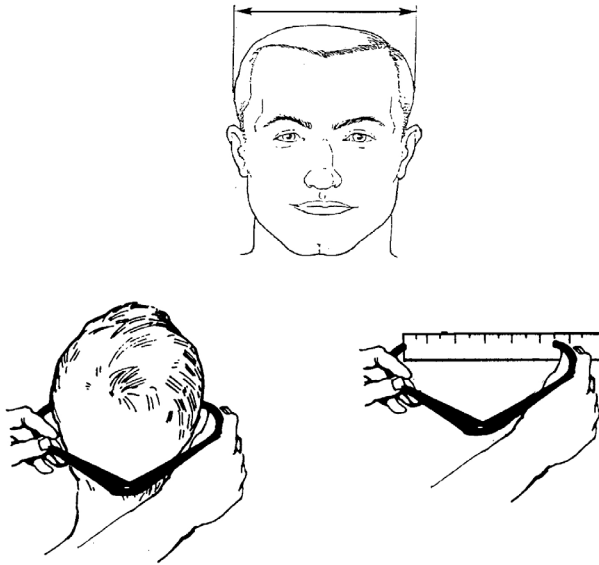

Figure 2. Measuring Head Width.
- Use a caliper and a ruler as shown in Figure 2 to measure the maximum horizontal width (to the nearest 1/16 inch) of the head above the ears. This is the head width. Ensure that the caliper touches the skin lightly and does not indent the skin surface.